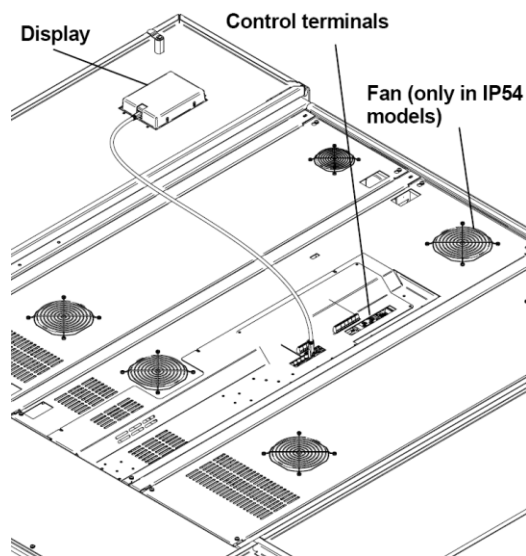
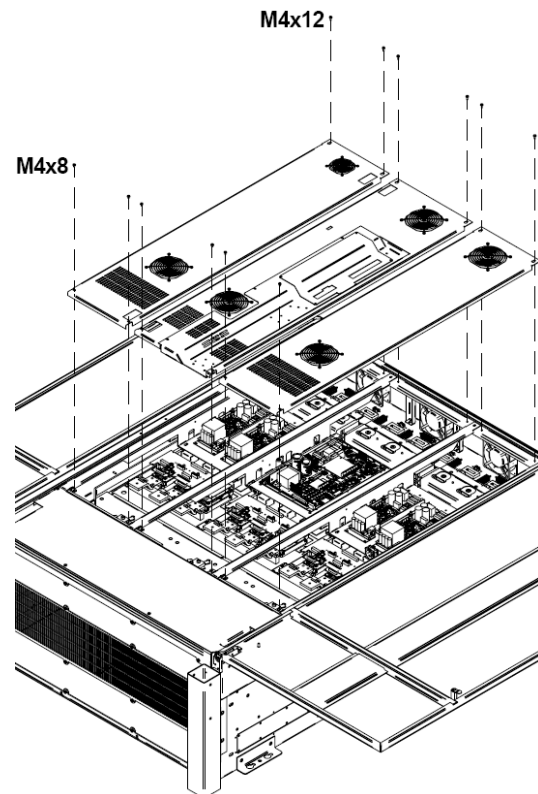

Figure 6.1 Disconnect the Display and the control terminals
Figure 6.2 Disassembly of the covers
Follow figure 6.1 and figure 6.2 while reading these instructions:
- 1) Place the covers on the chassis as it is shown in figure 6.2.